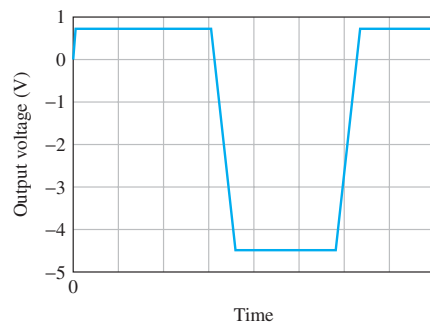

FIGURE P8.22 Zener diode output for Problem 8.22.
8.22 (B) Figure P8.22 shows the output of a Zener diode. From the plot, what information about the Zener diode can be obtained?